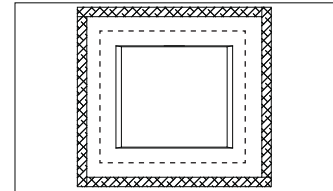

Figure 3
6. Mask the entire support surface/counter around the lavatory. (Figure 3)